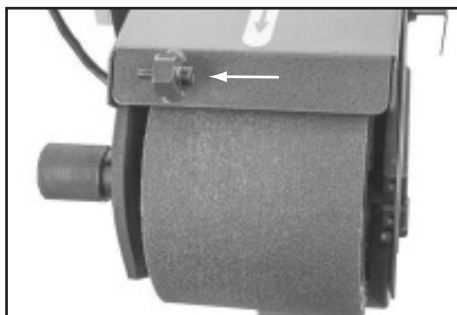

FIG.4
### 8.3 EYE SHIELD – FIGS.4 - 5
- Remove the cap screw and washer shown in Fig. 4.